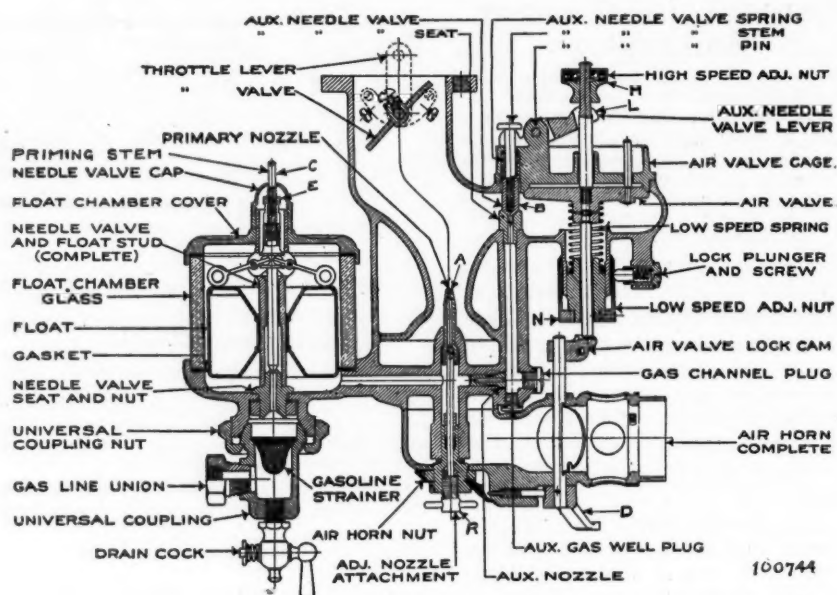

Fig. 1
3—An illustration of the Winton Stromberg carburetor is shown in Fig. 1. To adjust the carburetor, first adjust the lock nut (N) so that the auxiliary air valve seats lightly, then turn from two to five notches further up for additional tension. See that the adjustable nut (M) on top of the auxiliary air valve stem clears the secondary nozzle lever (L) not less than 1/64 of an inch (it will usually be found that this adjustment will be about right between 1/64 and 1/32 of an inch clearance), then turn the adjustable nozzle stem (R), to the right until it is seated, then back to the left from 1/4 to 3/8 of a turn and start the engine. Open or close this nozzle until the engine idles properly. This valve stem has a fixed opening, and when seated is as nearly closed as possible.